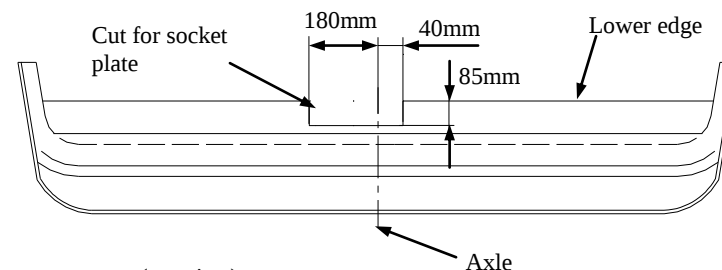

Fig. 2 Bumper cut out (top view)
3. Slide the bar (pos. 1) into the chassis and then fix with M10x40mm bolts (pos. 5) with big washers $\varnothing 30 \times \varnothing 10,5 \times 2,5 \text{ mm}$ (pos. 8) from the towbar equipment. Choose holes depend on car type.
6. Fix the socket plate (pos. 3) as shown on the drawing.
7. Cut the bumper according to figure 2 and mount it to the car.